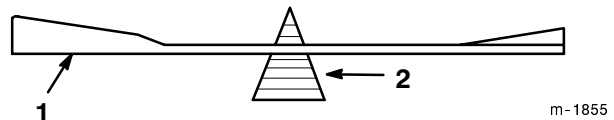
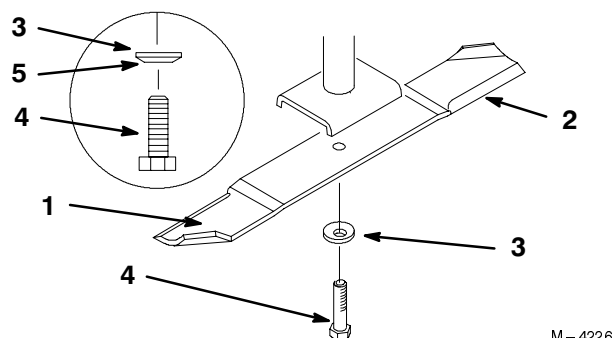

Figure 18
Figure 19
1. Hold the blade end using a rag or thickly-padded glove. Remove the blade bolt, spring disk and blade from the spindle shaft (Fig. 19).
2. Check the balance of the blade by putting it on a blade balancer (Fig. 18). If the blade stays in a horizontal position, the blade is balanced and can be used. If the blade is not balanced, file some metal off the end of the sail area only (Fig. 19). Repeat this procedure until the blade is balanced.
1. Install the blade onto the spindle shaft (Fig. 19).
2. Install the spring disk and blade bolt. The spring disk cone must be installed toward the bolt head. (Fig. 19). **Torque the blade bolt to 85-110 ft-lb (115-150 N•m).**